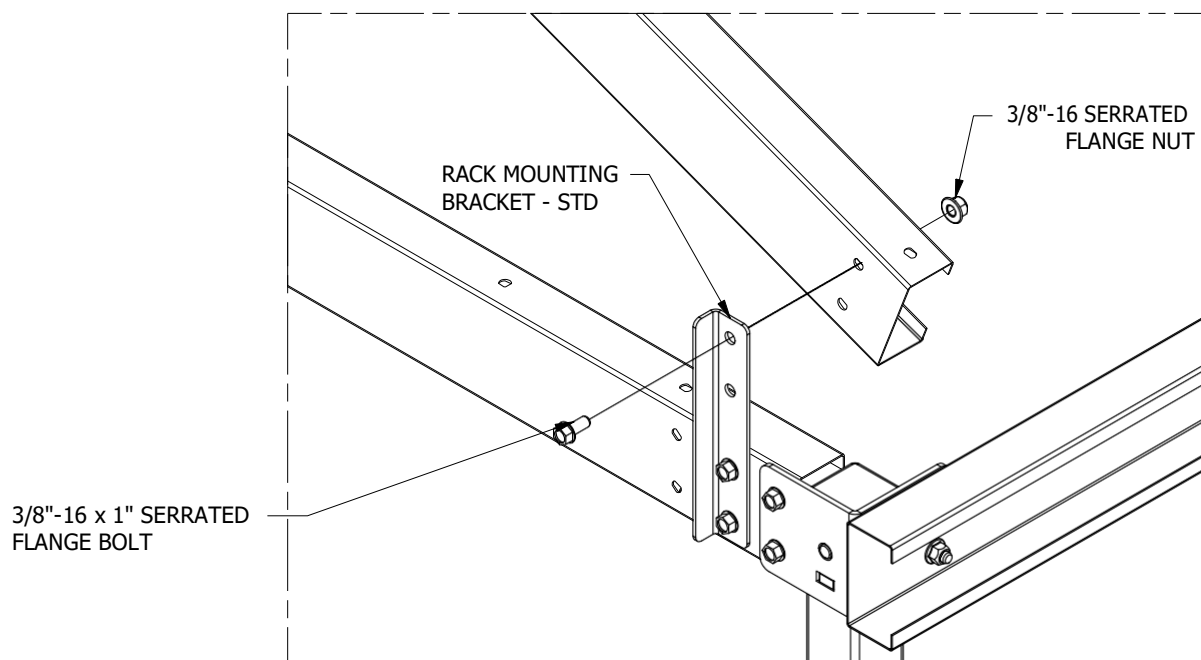
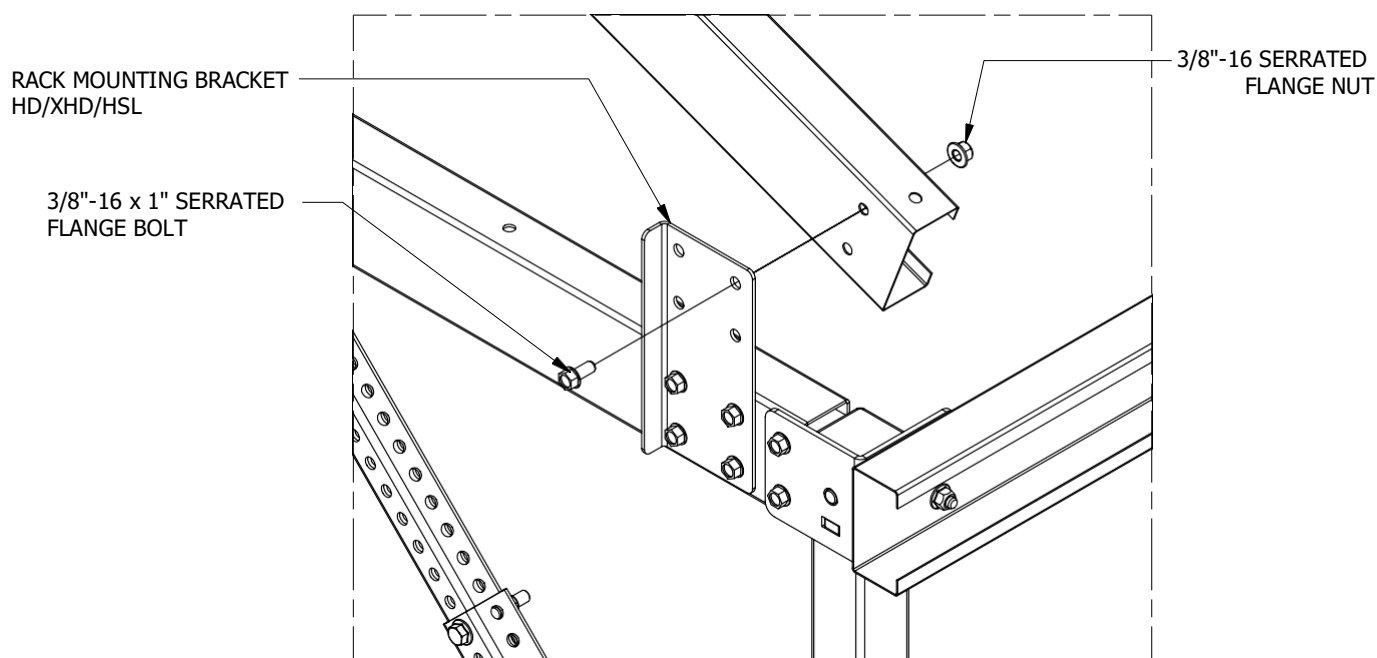

Figure 10: Strong Back to Rack Mounting Bracket - STD
Figure 11: Strong Back to Rack Mounting Bracket - HD/XHD/HSL
3. Place the Strong Back in line with the Chassis Stud and bolt the Strong Back to the upper hole of the Rack Mounting Bracket. Refer to Figure 10 and Figure 11 below.